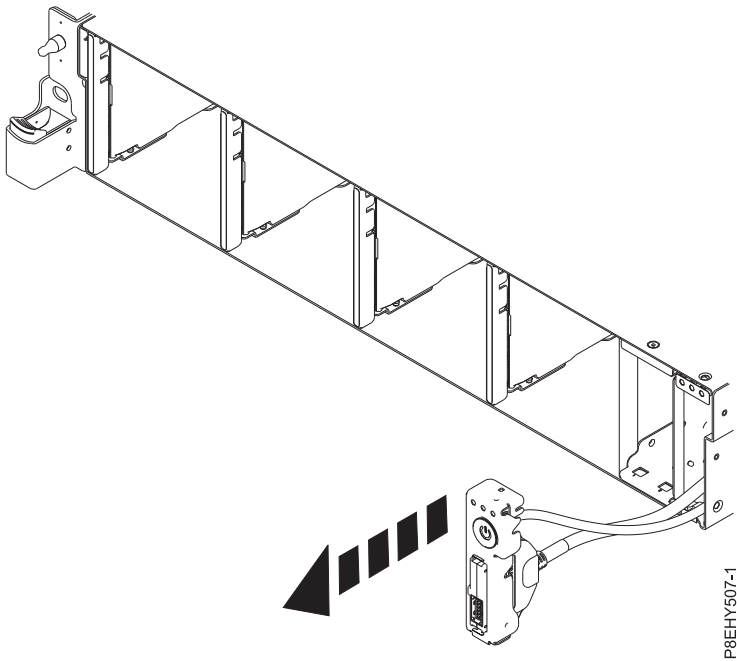

Figure 59. Pull power switch from system
9. Pull the power switch from the system See Figure 59.